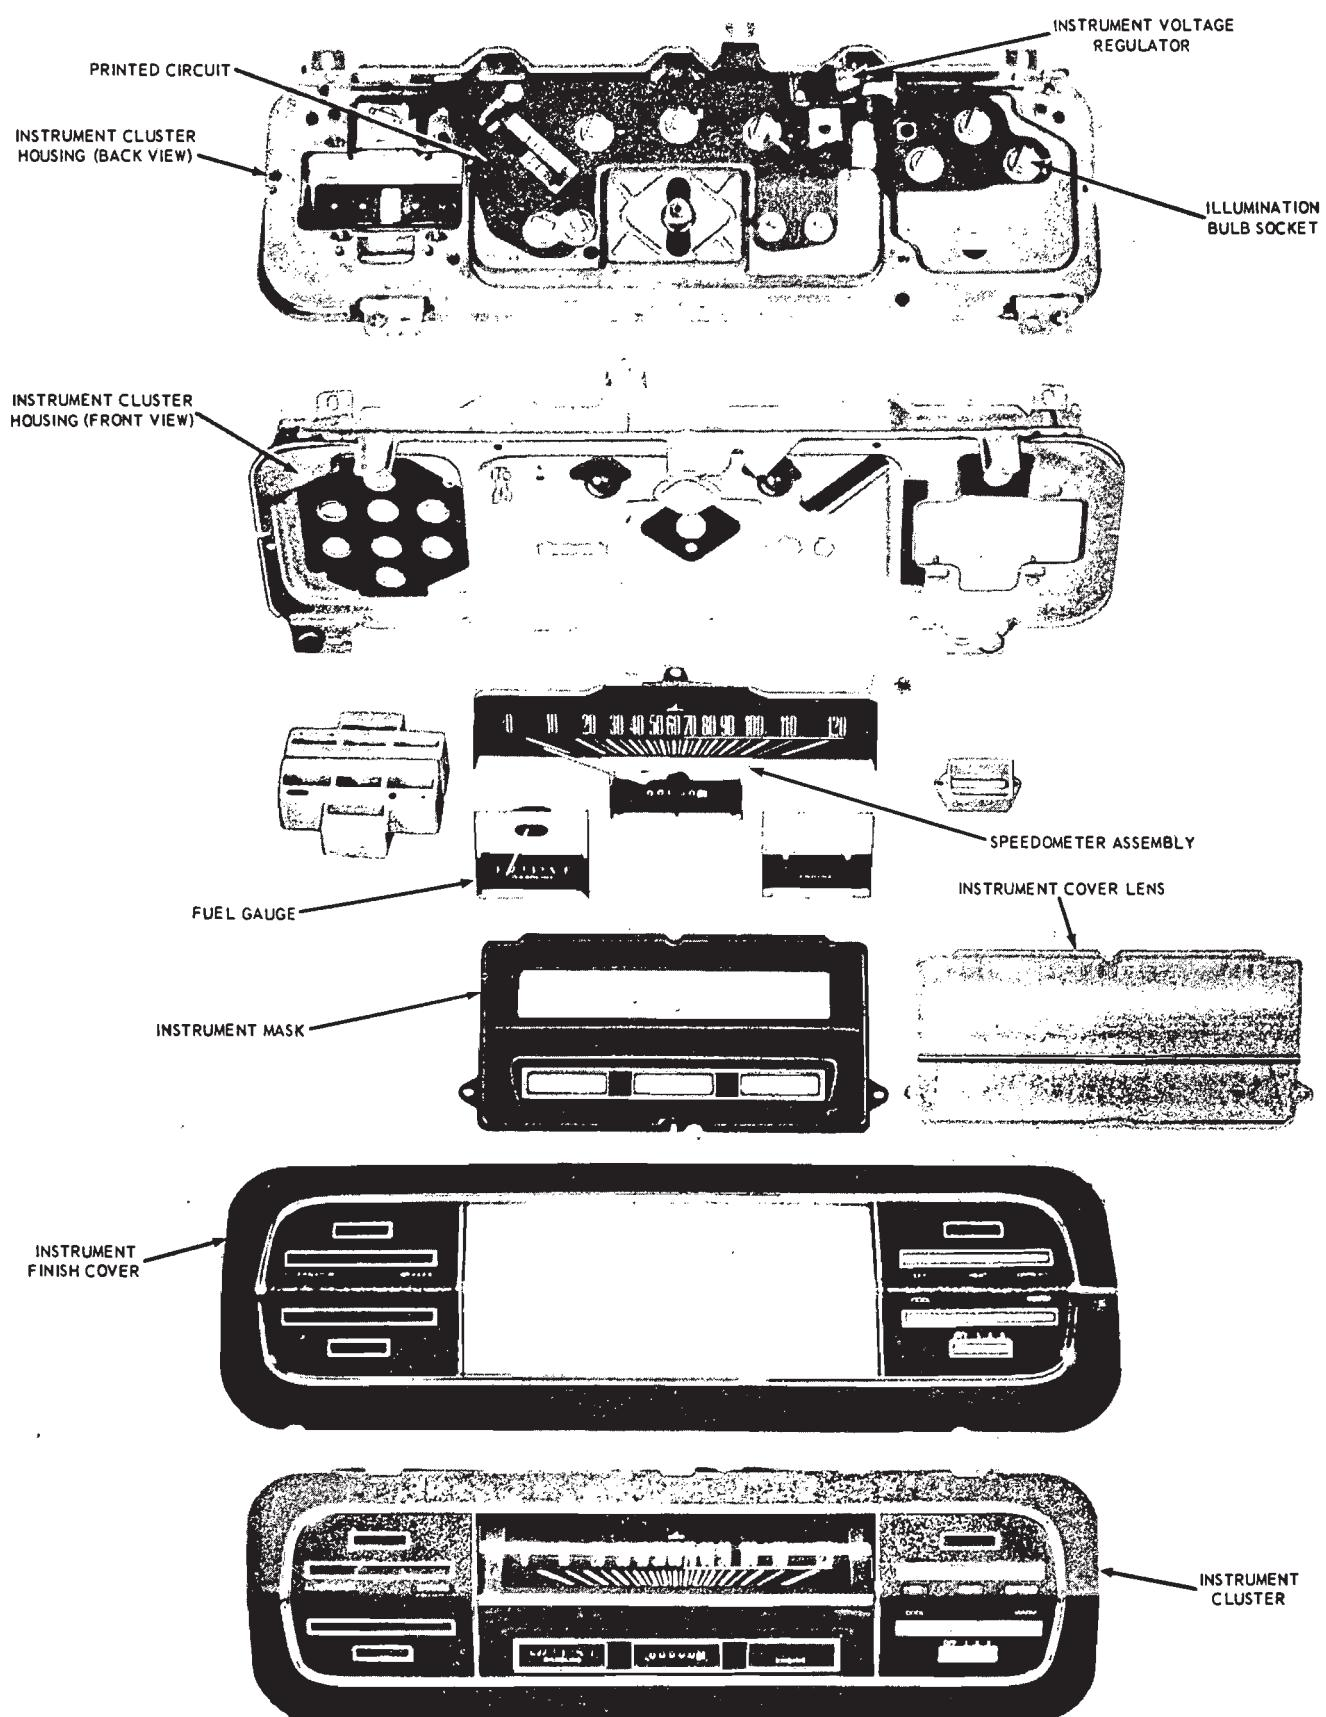

FIG. 12—Falcon Instrument Cluster
2. Remove the cluster illumination and indicator bulbs from the back of the cluster. Remove the three screws retaining the instrument voltage regulator and lead wires (Fig. 12). Remove the two retaining nuts from the fuel gauge and the three screws retaining the printed circuit and remove the printed circuit.
2. Remove the heater control knobs and remove the eight screws retaining the instrument cluster rear housing and remove the housing (Fig. 12).